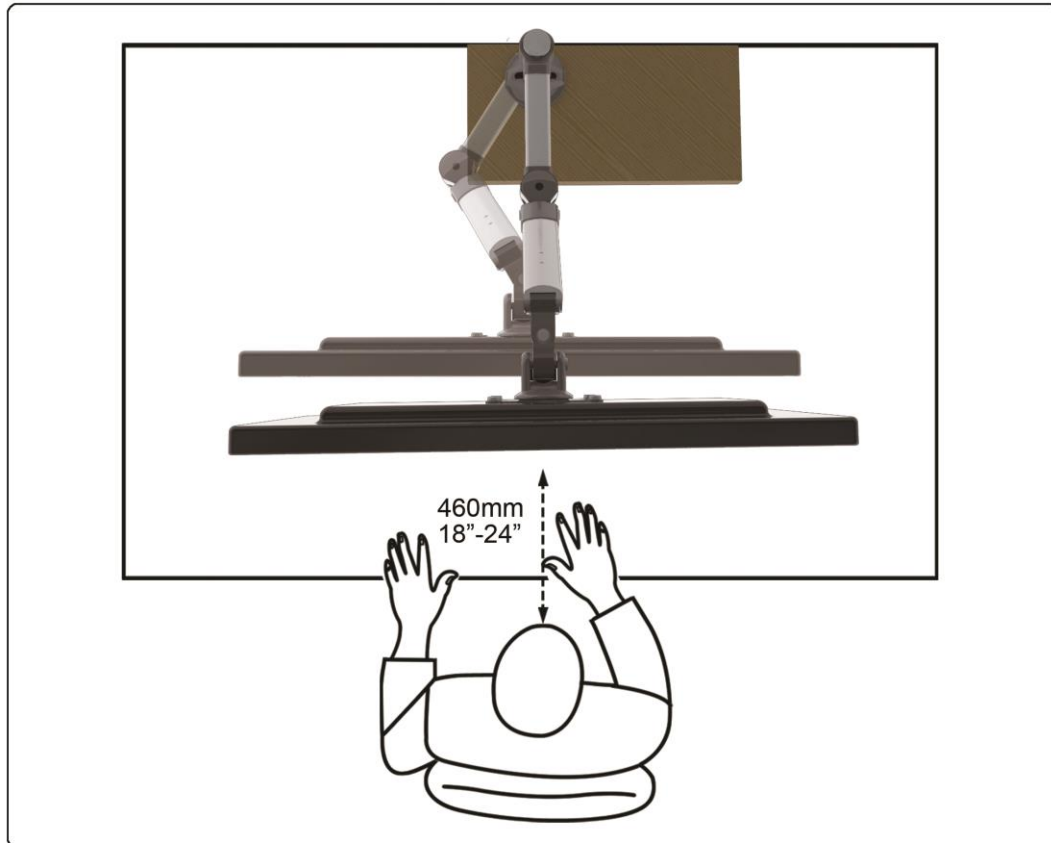

Figure 6-1
1. To ensure the correct focal distance for ultimate visual comfort, a viewing distance between 460mm (18") to 610mm (24") is recommended. **(See Figure 6-1).**